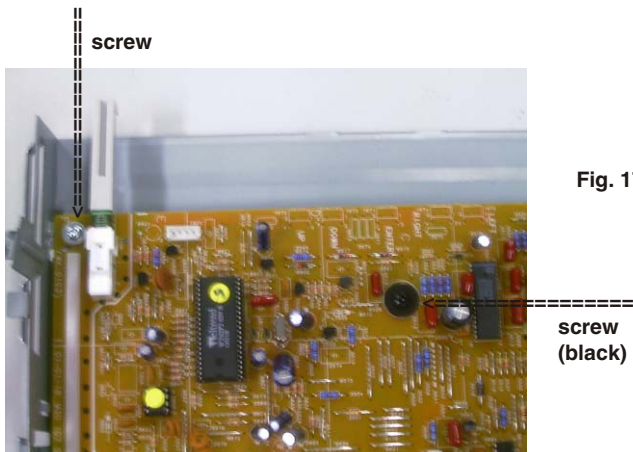

Fig. 17
- Remove 2 screws from Main panel as shown in Fig. 17.